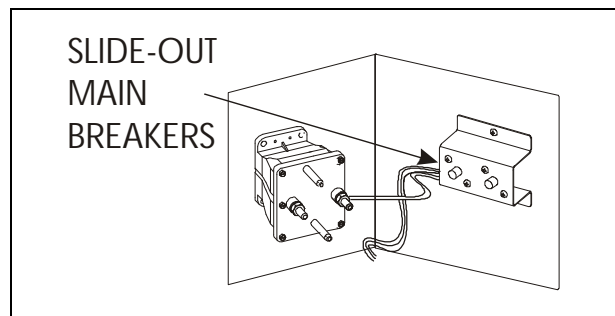
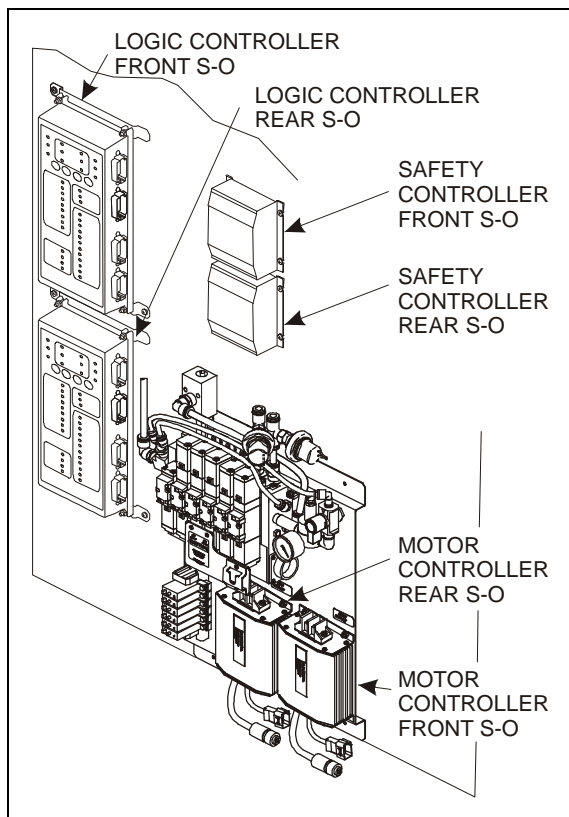
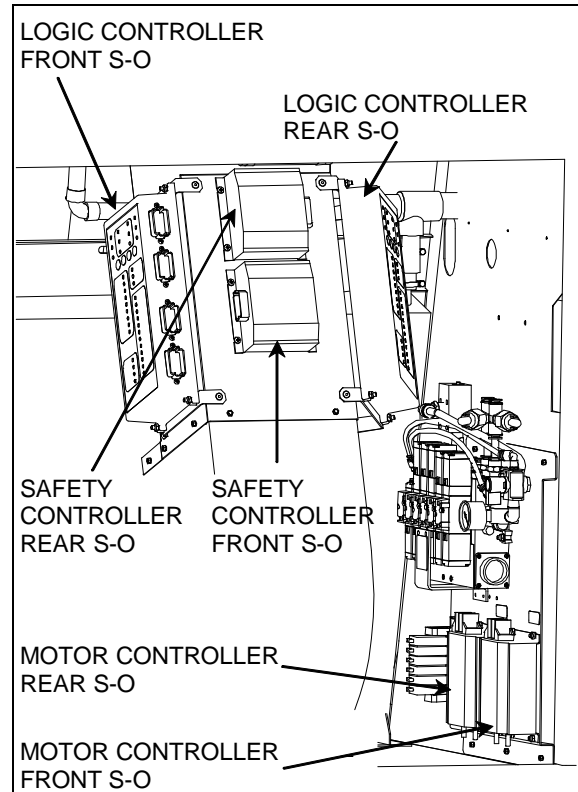
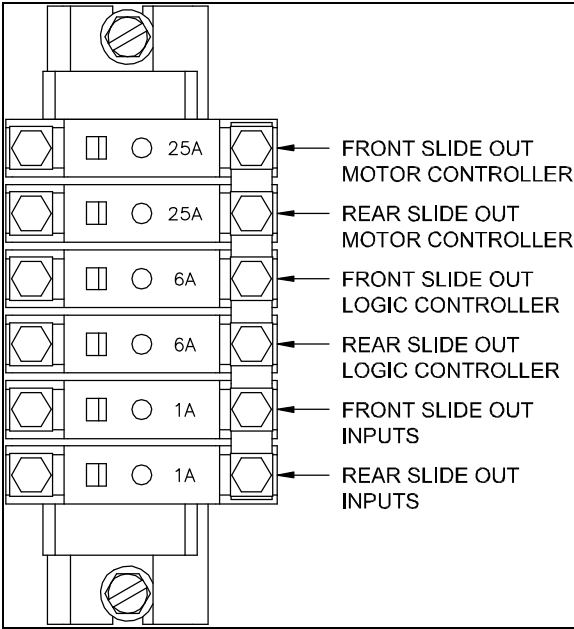

FIGURE 36 : BREAKERS IN MAIN POWER COMPARTMENT
FIGURE 38 : SLIDE-OUT ELECTRICAL PANEL (SMALL A/C)
FIGURE 39 : SLIDE-OUT ELECTRICAL PANEL (FULL A/C)
FIGURE 41 : SLIDE-OUT BREAKERS
The main breakers (for both slide-out) are located in the main power compartment (figure 36). All other slide-out breakers are located on the slide-out electrical component panel located in the third baggage compartment on the driver side (figure 38 and figure 41). A relay is added to power the transmission inhibit system in the main power compartment.
The slide-out electronic control system consists of two electronic control modules for each slide-out. Each slide-out has a logic controller, a motor controller and a safety controller. They are located in the third baggage compartment on the driver side (see figure 38 and figure 39).
1. Turn the ignition key to the "OFF" position. For added security, trip the slide-out breakers (figure 41).